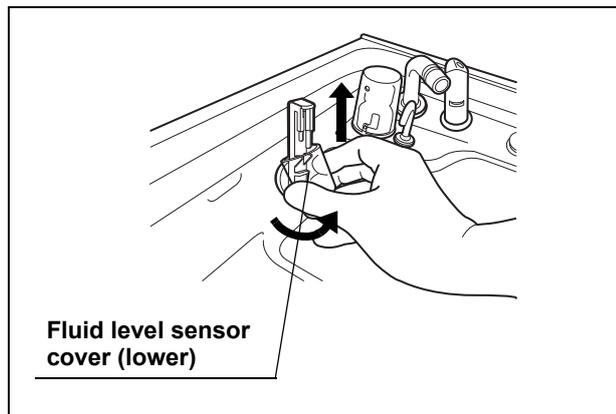

Figure 5.5
3. Lift the lower part of the fluid level sensor cover (lower) and pull it up to remove as shown with the arrow in Figure 5.5.